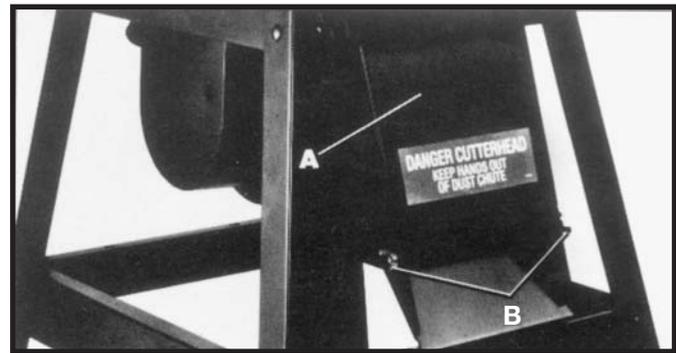

Fig. 71
The dust chute cover (A) Fig. 71, can be removed, for cleaning purposes, by removing the two wing screws (B).
**⚠ WARNING MAKE CERTAIN THE MACHINE IS DISCONNECTED FROM THE POWER SOURCE BEFORE REMOVING THE DUST CHUTE COVER. THE DUST CHUTE COVER (A) MUST ALWAYS BE ASSEMBLED TO THE DUST CHUTE DURING OPERATION.**